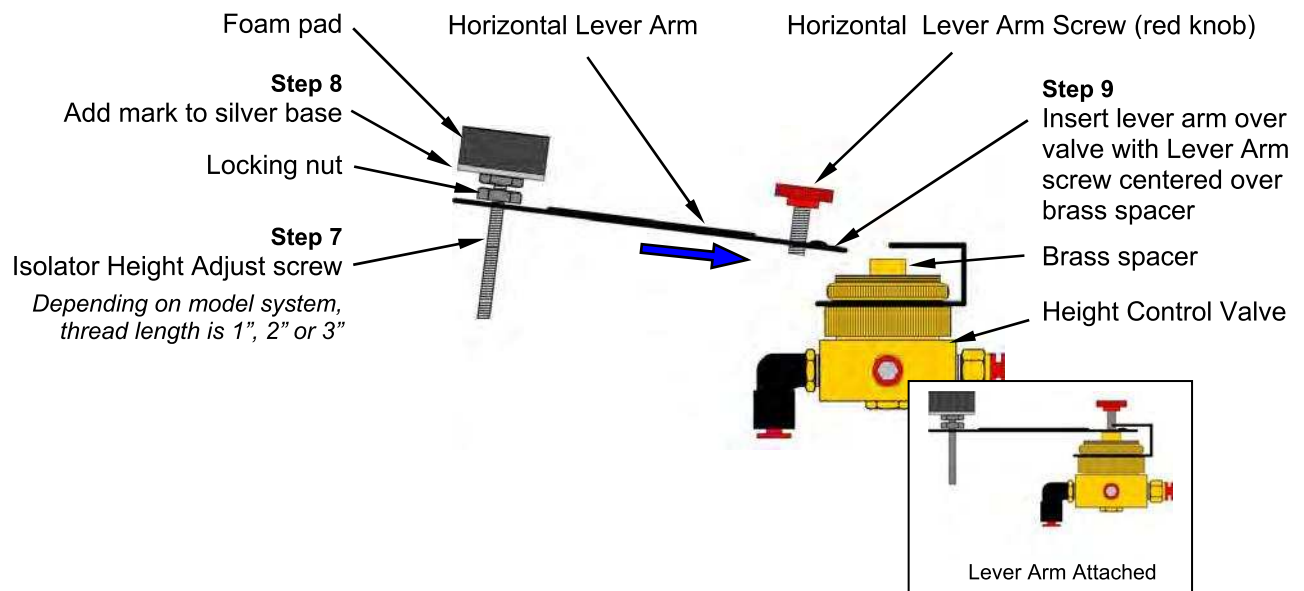

Figure 6 Attaching Horizontal Lever Arm
Step 9 Insert *horizontal lever arm* onto *height control valve* ensuring the end of the **HORIZONTAL LEVER ARM SCREW** fits over the center of the *brass spacer* located on the top of the valve as shown in figure 6 above.